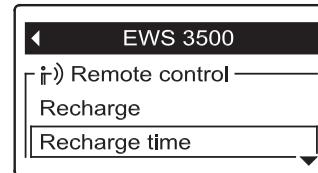

FIG. 116
3. Press the DOWN (▼) button to scroll through the menu options until **Recharge time** is highlighted in a box (See Figure 116).
6. Press the SELECT (○) button. The display will go back to the conditioner/refiner menu (Figure 116).